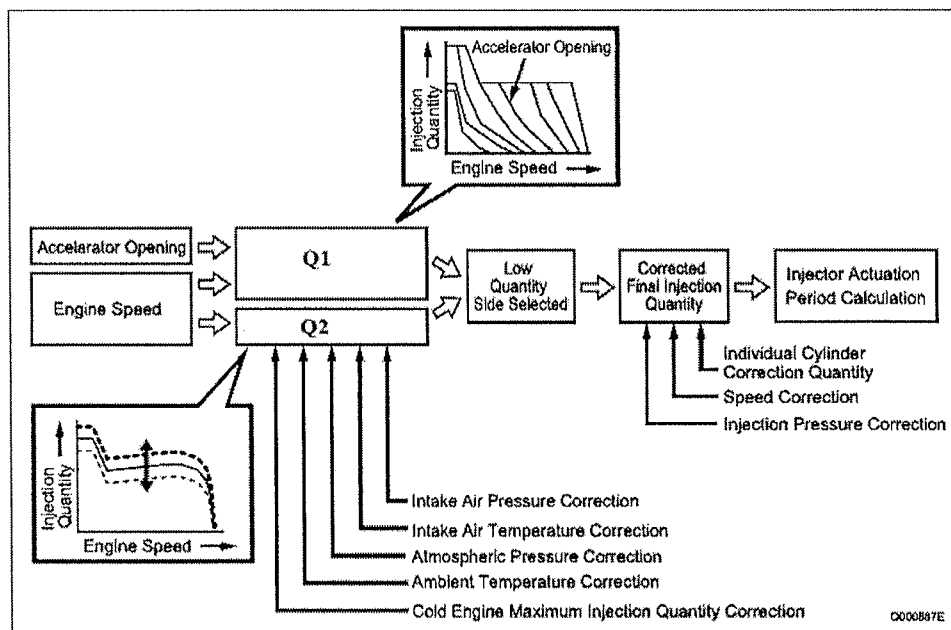

Figure Q2: Injection Quantity Calculation Diagram
- Figure Q2 below shows the Injection Quantity Calculation Method used by the ECU in a Common Rail Diesel Engine.
With reference to Figure Q2, answer the following: